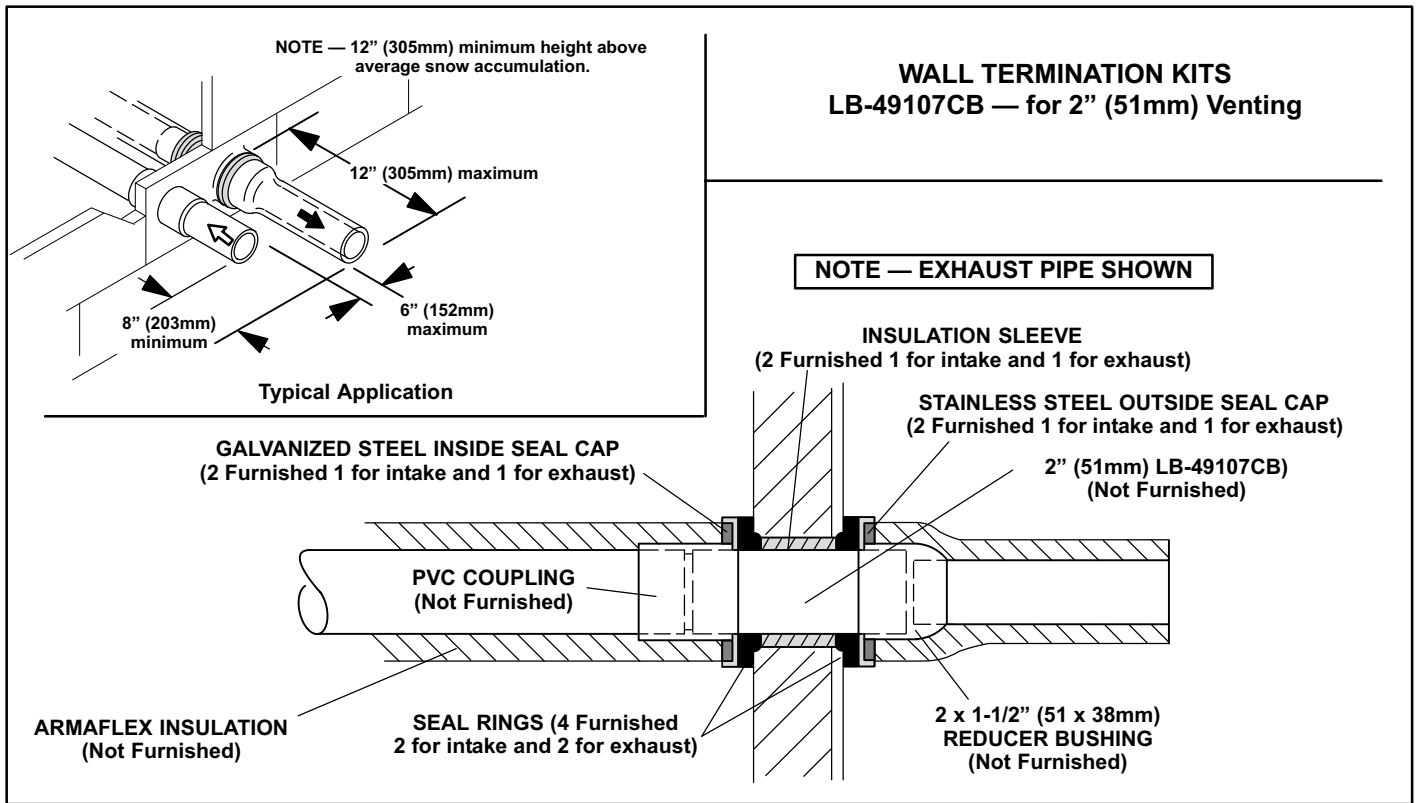

FIGURE 31
- 6 - On side wall exits, exhaust piping should extend a maximum of 12" (395mm) beyond the outside wall. Intake piping should be as short as possible. See figure 31.